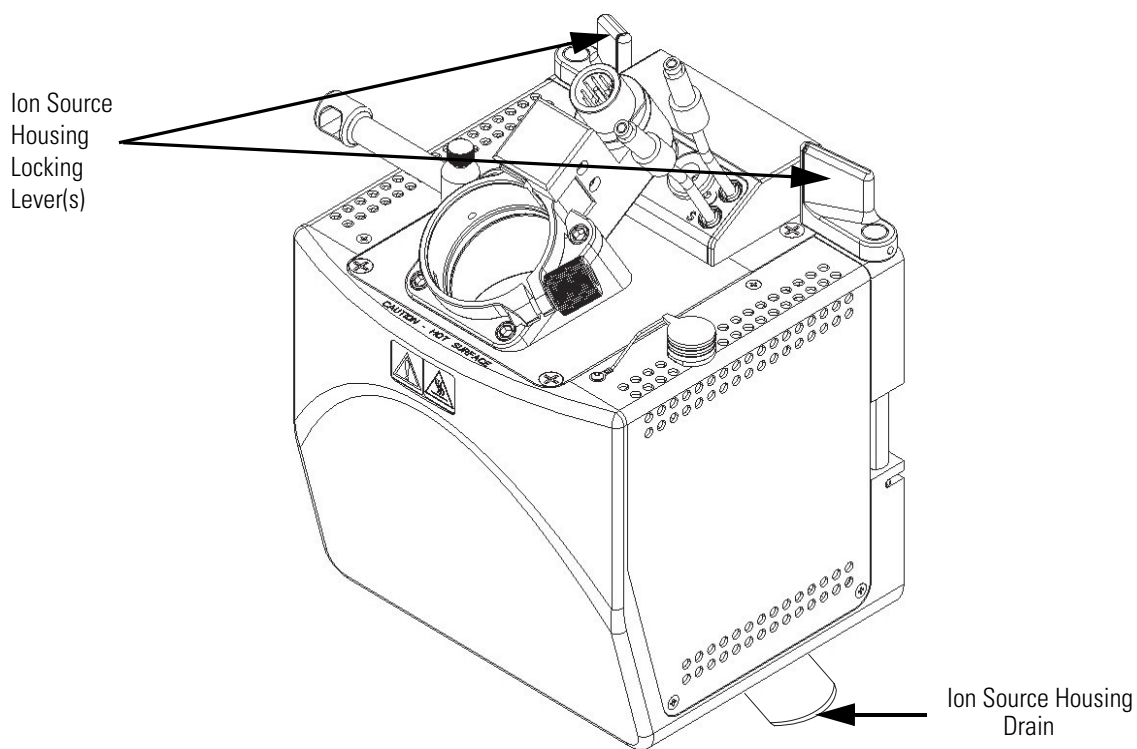

Figure 50. Ion Max-S ion source housing, detail of components (this component detail also applies to the Ion Max ion source housing)
1. Remove the drain tube from the ion source housing drain. See Figure 50.